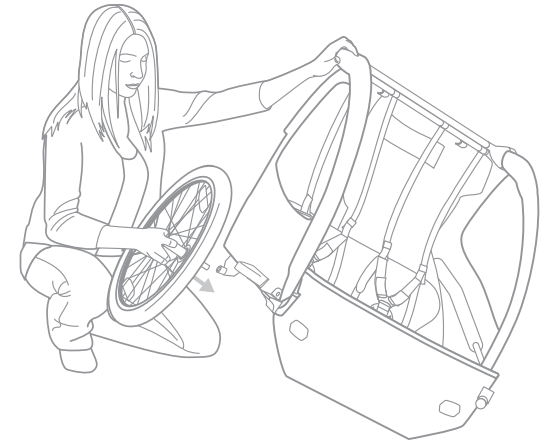

Figure 6
2. Insert wheel axle into axle receiver, and then release the button. Pull firmly on wheel to confirm the axle is fully engaged. (Figure 6)